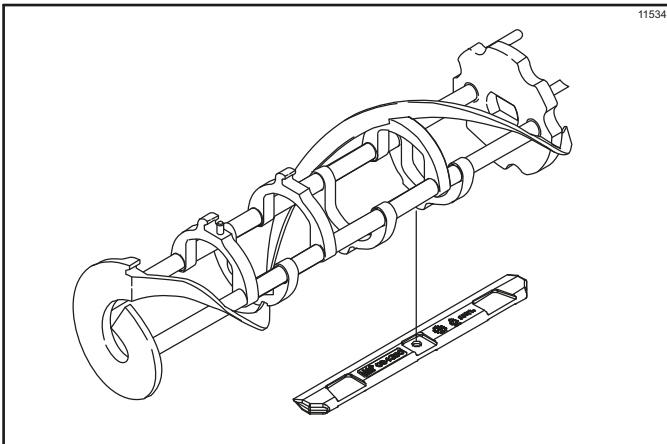

Figure 6-4
7. If the blades are in good condition, install the scraper blade over the rear holding pin on the beater. (See Figure 6-4.)